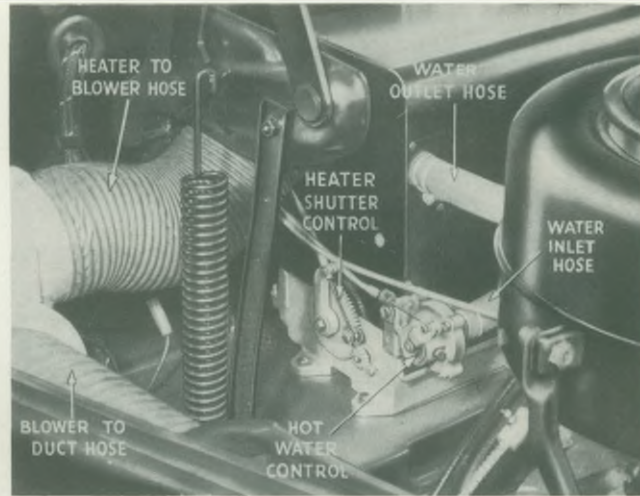

Fig. 36. Showing Controls and Hoses
9. Check for the correct attachment of the control cable to the bracket assembly in particular the double control which is connected to the gearing on the right of the heater box, as shown in Fig. 36. The shortest control cable, which is attached to the shutter lever, must be placed uppermost next to the bracket in its fitted position, thus allowing the necessary clearance on the blower to heater connector hose.